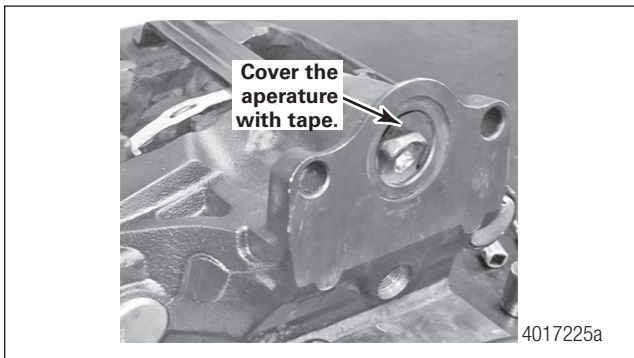

Figure 8.3 Air Chamber Mounting Aperture
5. Cover the exposed air chamber mounting aperture with tape to prevent debris from entering the caliper housing assembly. Figure 8.3.